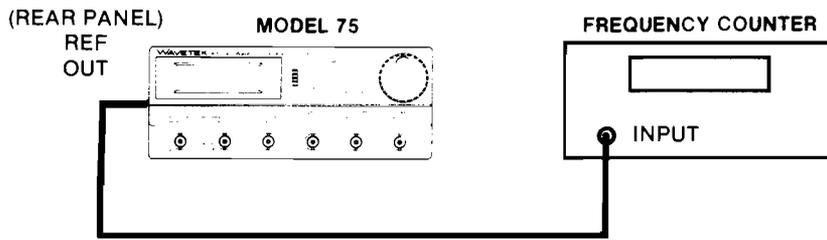

Figure 5-4. Frequency Verification Equipment Connection
1. Interconnect the Model 75 and test equipment as shown in figure 5-4.